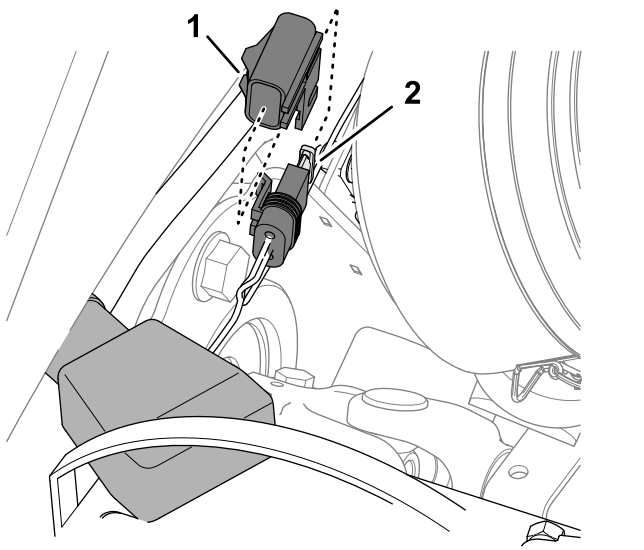

Figure 99
3. Locate the in-line fuse holder that is inboard of the battery (Figure 99).